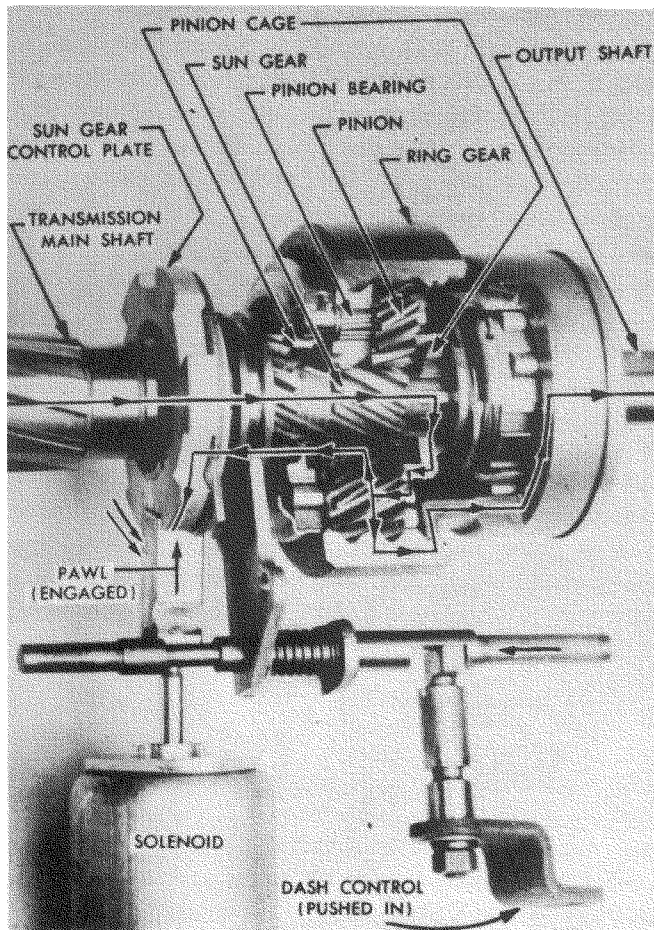
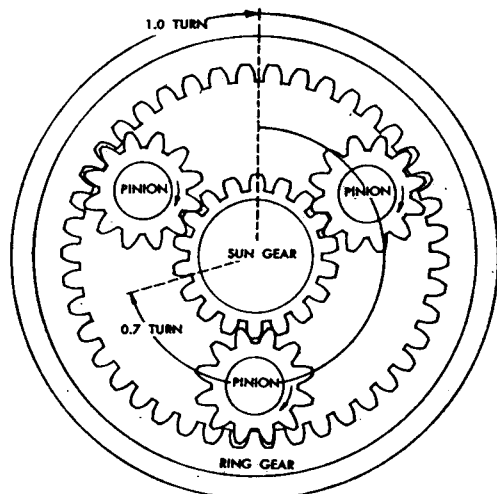

Figure 5.
Figure 6.
**α.** If the sun gear is held against rotation, (**Fig. 5**), the pinion cage, and hence, the engine, will revolve through only 0.7 turn for each turn of the propeller shaft (**Fig. 6**). The action of the control elements involved is as follows: